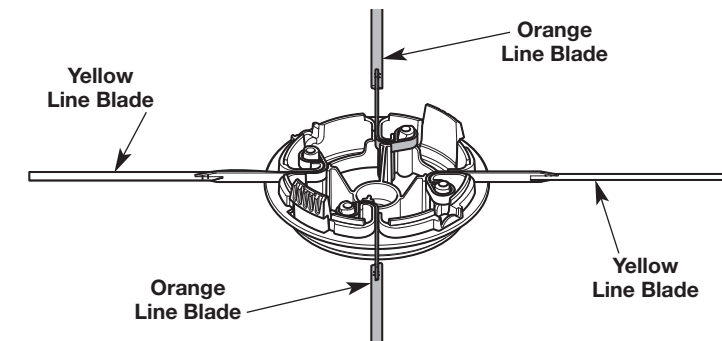

Fig. 28
6. Repeat step 5 until all four line blades are installed (two yellow and two orange). Always alternate between yellow and orange line blades (Fig. 28). Do not install two line blades of the same color next to each other.